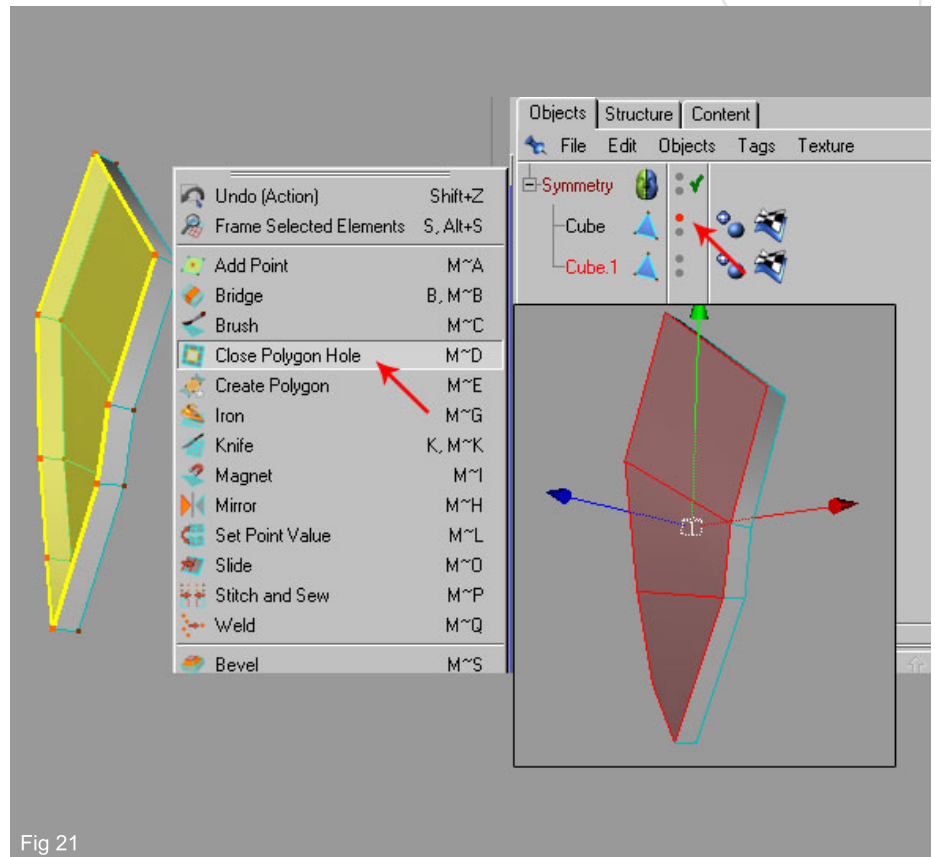

Fig 21
21. Now you will notice, on the other side of the ear there is a hole. To fix this go into vertex mode, right click and choose "Close Polygon Hole" from menu. Then connect the vertices with the Knife tool. (Fig 21).